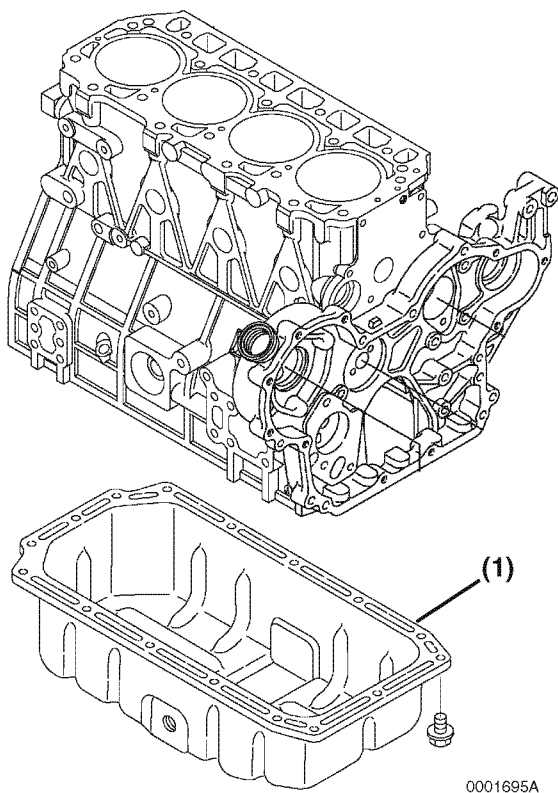

Figure 6-38
3. Remove the oil pan (**Figure 6-38, (1)**). Thoroughly clean all old sealant from the oil pan.